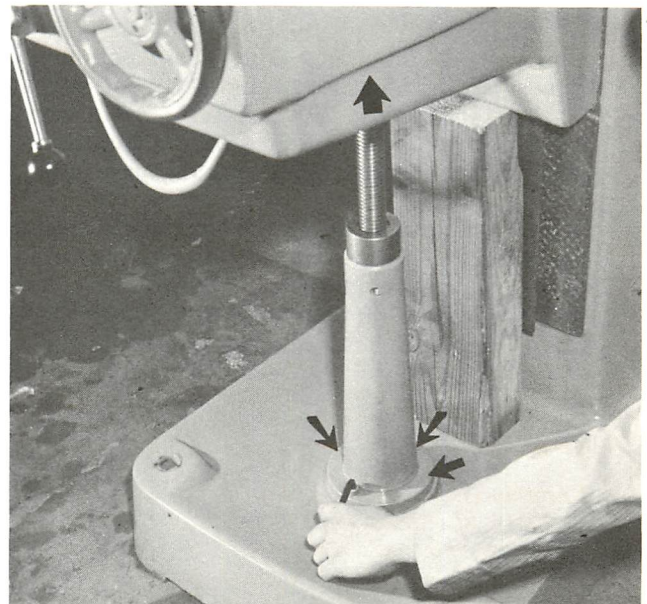

FIGURE 23
2. Run knee up near its topmost position. Remove four cap screws (14B) from base and tap base to loosen two straight 3/8" pins (12B). Clamp knee and place a wood block under it next to column. Turn elevating crank and raise elevating screw pedestal (11B). [Figure 23.]